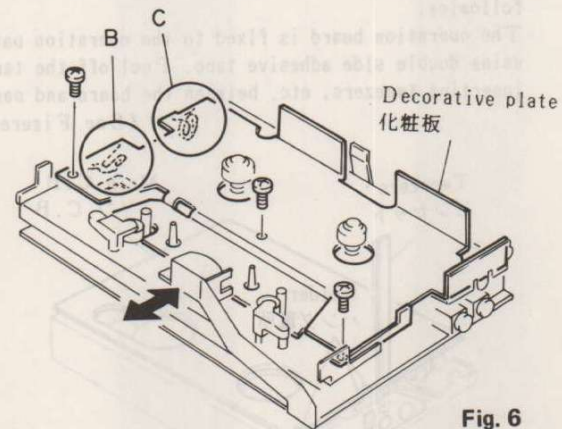

Fig. 6
- 4) Remove 3 screws from the cassette decorative plate and loosen the wire at sections B and C. (See Figure 6)
(See Figure 6)